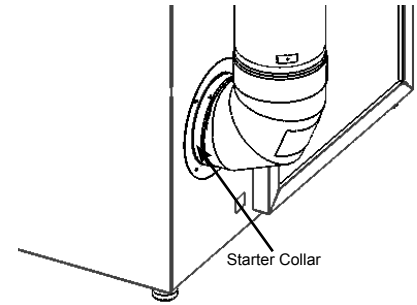

FIGURE 11
2. Connect a Starter Collar to the back of the UBB using three screws. See Figure 11.
3. Insert an Elbow through the Starter Collar, into the back of the UBB. Align and push together until snapped into locked position. See Figure 11.